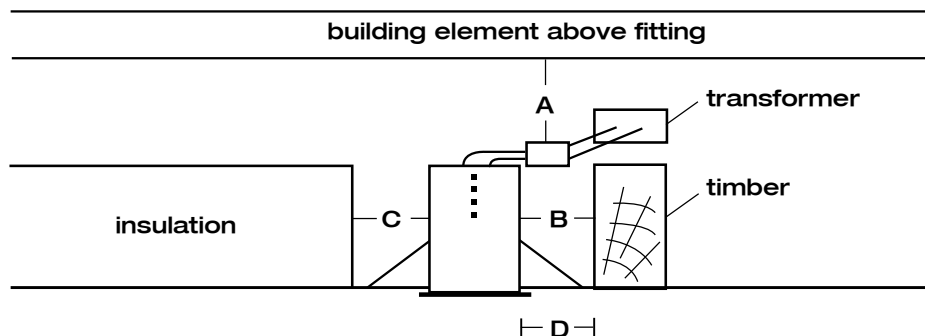

Fig. 1
Ensure that there is adequate free air circulation around the luminaire; refer to Fig.1 & Table 1.
Insulation material **MUST NOT** cover the luminaire or transformer. The transformer should be located in a well ventilated position a minimum of 50 mm from the edge of the luminaire to avoid overheating, (see Fig. 1 & Table 1) and at least 20mm clear of adjacent thermal insulation.
If loose-fill insulation is installed in the space containing this luminaire, a fire resistant barrier min. 50mm higher than the surrounding insulation level **MUST** be installed in a manner that will maintain the required clearances as detailed in Fig. 1.
2. Select the required position for the luminaire, ensuring the clearances shown in Fig.1 are adhered to. Beware of joists, insulation, water pipes and electric cables; cut a hole in the ceiling which matches to the type of downlight (see Table 2 below). Connect extra low voltage secondary leads from the transformer to the terminal block.